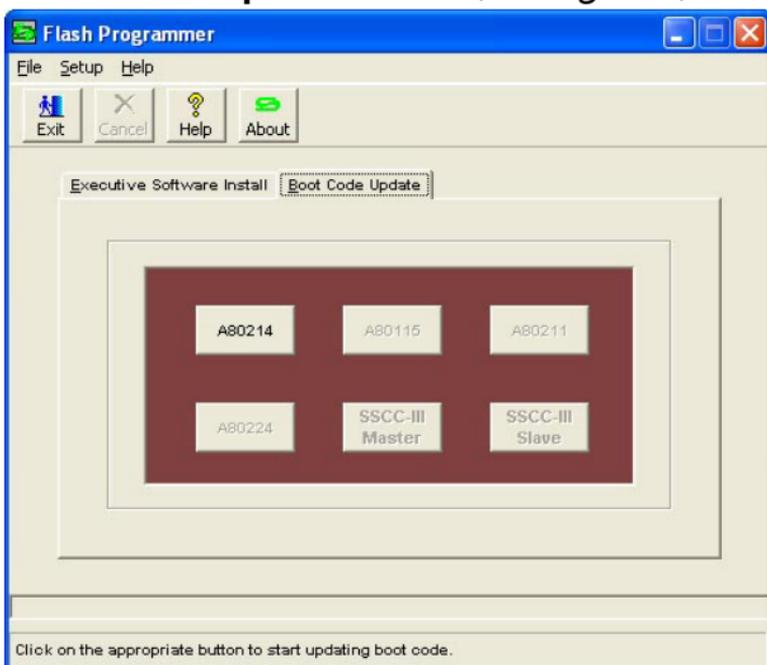

Figure 2:
2. On the Flash Programmer Window, select the **Boot Code Update** button (See Figure 2).